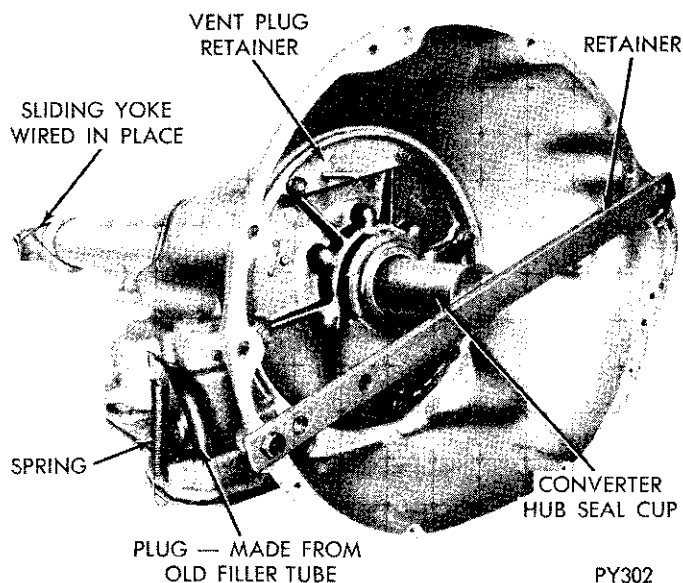

Fig. 4—Transmission Prepared for Test
front cooler line fitting), and pipe nipple (in case at rear cooler line fitting) (Fig. 4 and 5).
(2) Remove necessary front pump housing bolts, and vent shield (in A-727 transmission). Install vent plug (rubber stopper), and vent plug retainer (Fig. 4) preferably using longer bolts than those removed.
(3) With rotary motion, install converter hub seal cup (Fig. 4), over input shaft, and through the converter hub seal until the cup bottoms against the pump rotor lugs. Secure with cup retainer strap (Fig. 4), using converter housing to engine block retaining bolts.